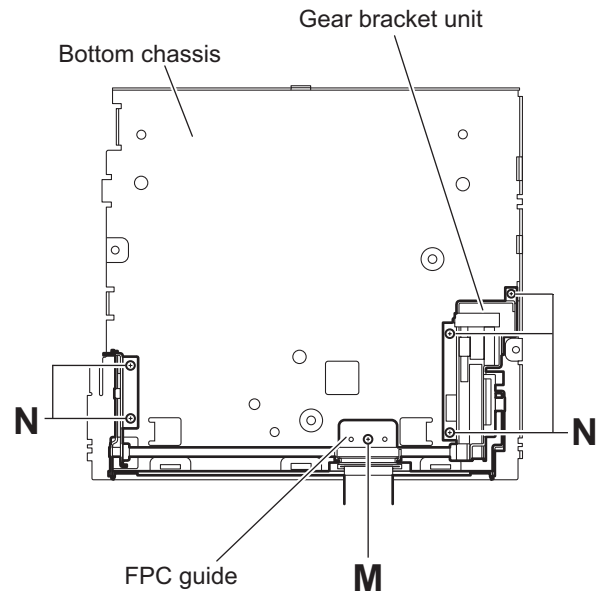

Fig.14
3.1.9 Removing the gear bracket unit (See Fig.14.)